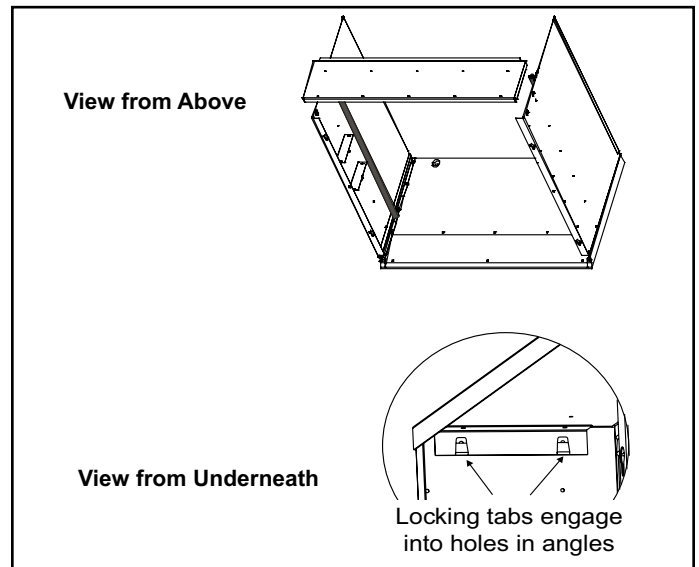

Figure 3. Attaching Top Panel
4. Install top panel assembly onto side panels as shown in Figure 3.